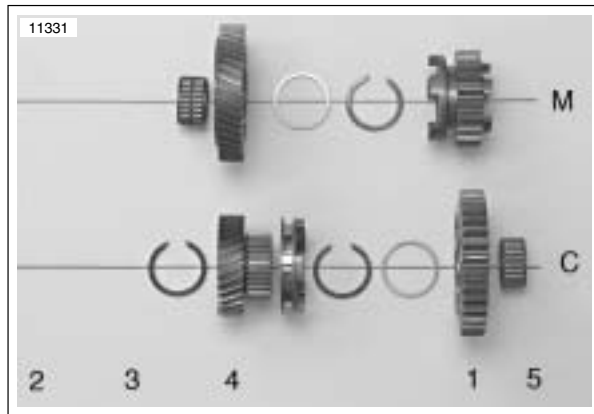

Figure 6-61. Transmission Parts Identification
- See Figure 6-61. As each component is removed, place it on a clean surface in the exact order of removal.